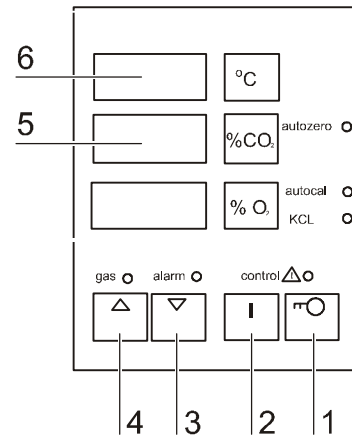

Fig. 32
1. **Fig. 32:** Keep KEY key [1] depressed and select function level 3 by pressing the UP key [4].